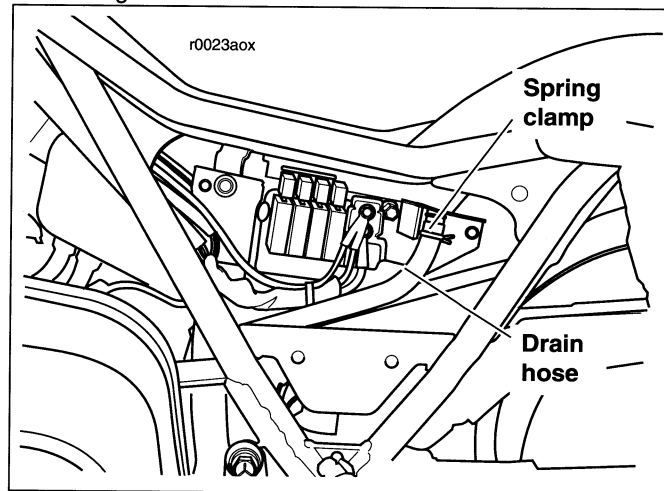

Figure 21. Oil Tank Drain Hose
2. See Figure 21. Locate the engine oil tank drain hose inside the FXR² Side Cover.